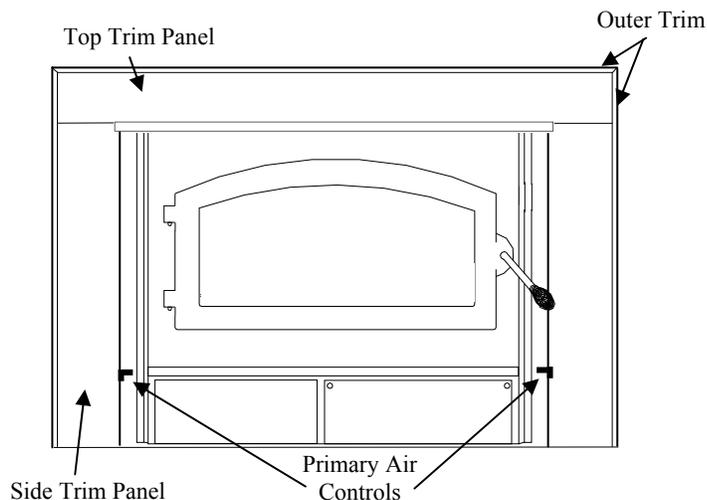

FIGURE 4
9. Obtain brass trim kit provided with insert kit and slip over top and sides of trim panels. Top ends of brass may need to be trimmed to fit (See Figure 4).
Primary Air Control: The primary air intake draft controls are located at right and left bottom side of hearth. It is operated by moving handle **out** to open (to allow air into firebox) or **in** (to control or close off) air into firebox. (See Figure 4).